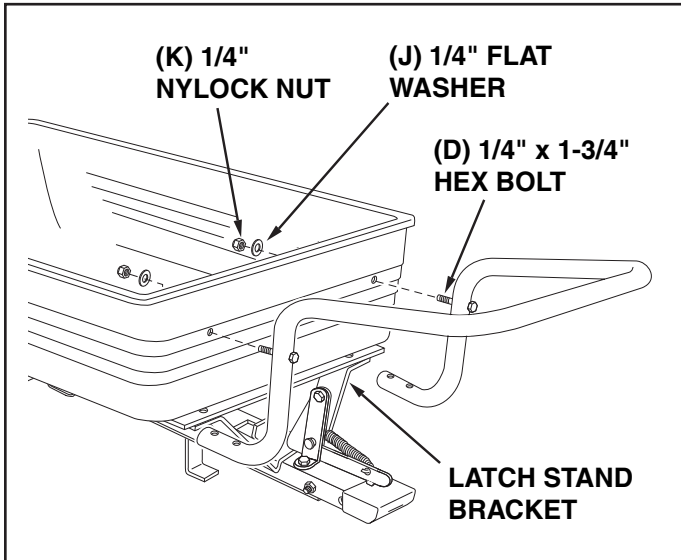

FIGURE 8
15. Insert two 1/4" x 1-3/4" hex bolts (D) through the handle tube as shown in figure 8. Holding the bolts in place in the handle, insert the bolts through the holes in the poly tray, allowing the legs of the handle to slip beneath the latch stand bracket. Secure the two bolts with two 1/4" flat washers (J) and 1/4" nylock nuts (K). **Do not tighten yet.** See figure 8.